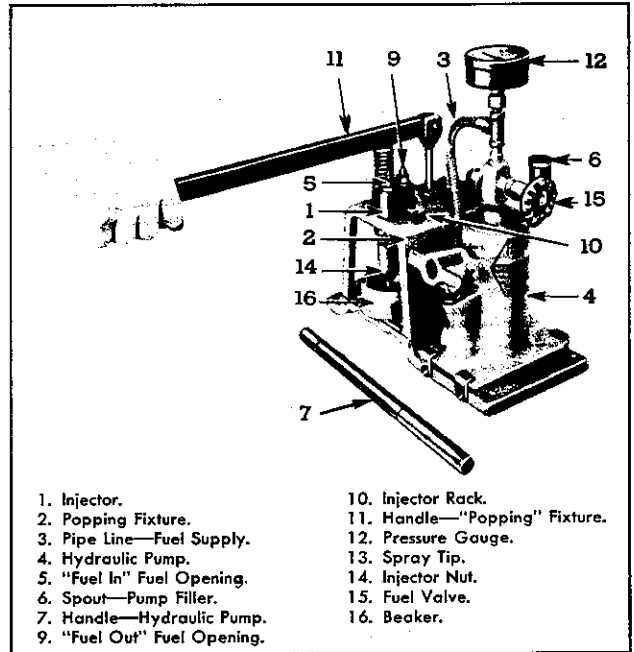

Fig. 17—"Popping" the Injector.
Refer to Figs. 17 and 18 and test the injector as follows:
1. Place the injector (1) in the popping fixture (2) with dowel on underside of injector body located in hole of fixture.
2. Connect fuel supply pipe line (3) from hydraulic pump (4) to "fuel in" side of injector (5).
3. Fill the hydraulic pump through filler (6) then pump the hydraulic handle (7) and force all the air from the injector.
4. Screw cap (8) on "fuel out" side (9) of injector (1).
5. Work hydraulic handle (7) up and down a few times to check fuel supply line and "fuel out" cap (8) for leaks.
6. Push the injector rack (10) way IN to full fuel position and "pop" the injector sharply three or four times with popping handle (11) as shown in Fig. 17.
7. **Check "Popping" Pressure** by working the hydraulic pump handle (7) up and down with smooth, even strokes, at the same time watching the pressure gauge (12) and note at what pres-